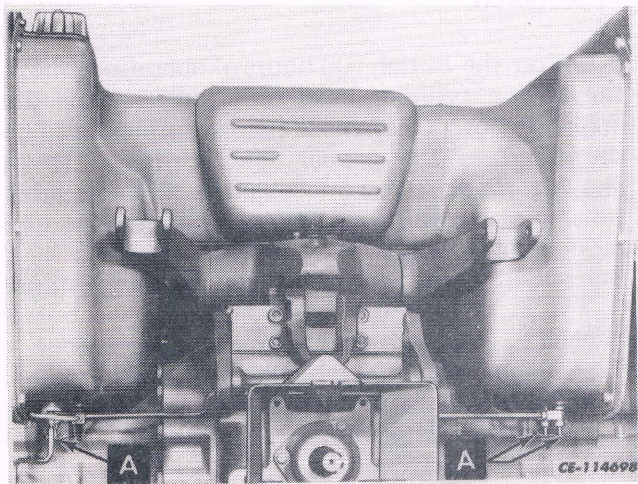

Fig. 1. Fuel Shutoff Valves
2. Be sure the three fuel shutoff valves (A, Fig. 1) are open.